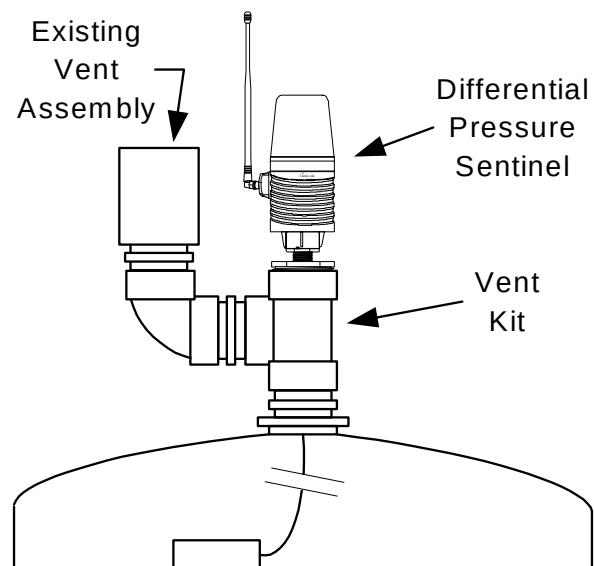

Figure 2
- 2) Assemble the Vent Kit items in the manner shown in Figure 2.
- 3) Install the existing vent assembly onto the 90 Elbow as shown in Figure 2.
- 4) Install the Differential Pressure Sentinel onto the top of the Tee as shown in Figure 2.